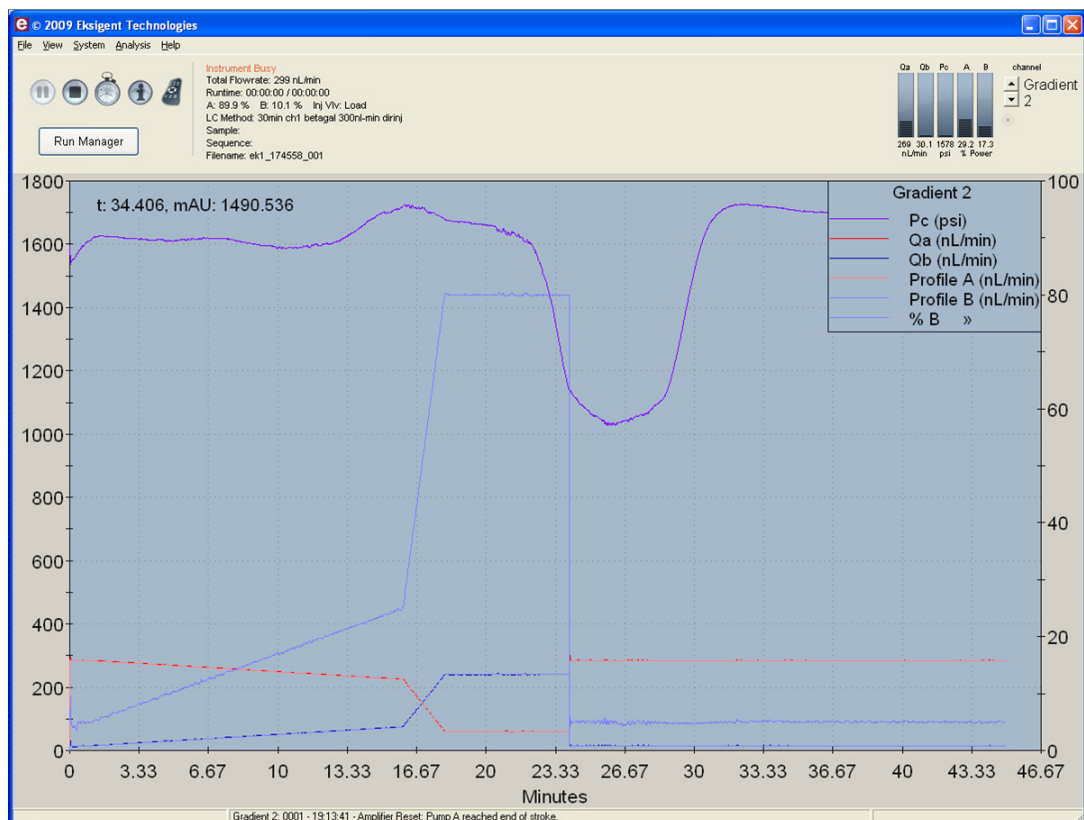

Figure 1-33 Good pressure profile for a direct injection NanoLC Ultra system run
- Figure 1-33 shows a minimal pressure change upon injection and a 30% pressure decrease during the high organic flush.